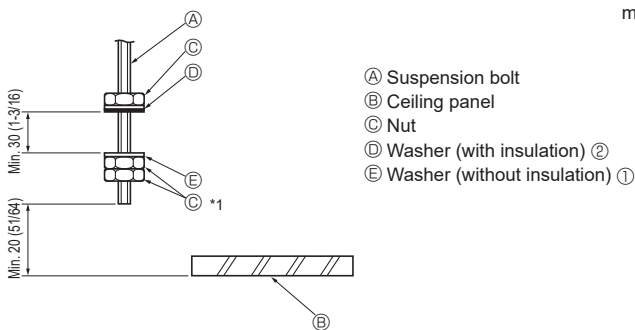

Fig. 2-5
2.4. Unit suspension procedures (Fig. 2-5)